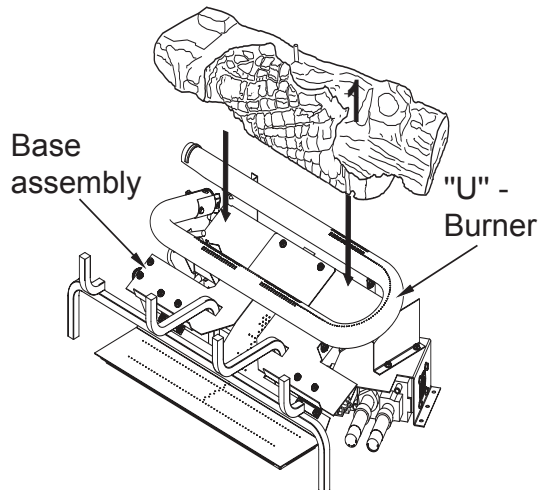

Figure 22 - Installing Log # 1
1. Place the rear log (#1) on base assembly as shown in Figure 22. Log will fit over right end of burner and rest in middle of U-burner.